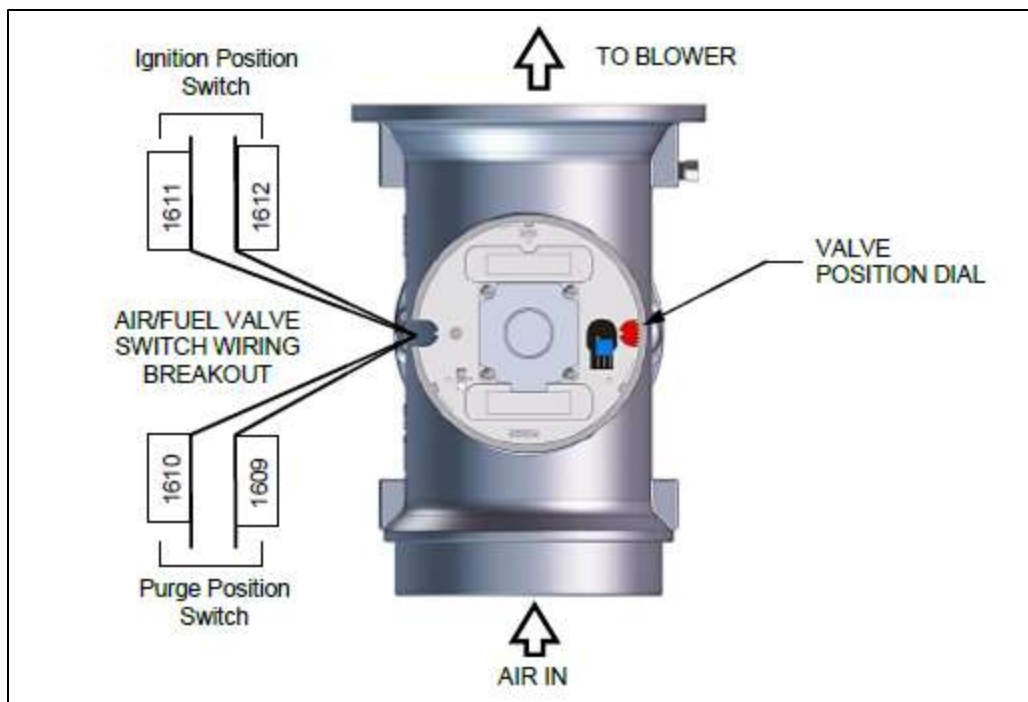

Figure 6-11: Air/Fuel Purge and Ignition Locations
5. Remove one of the two wires (#1609 or #1610) from the Purge switch (Figure 6-11).
5. Remove wire #1611 or #1612 from the Ignition switch (Figure 6-11).